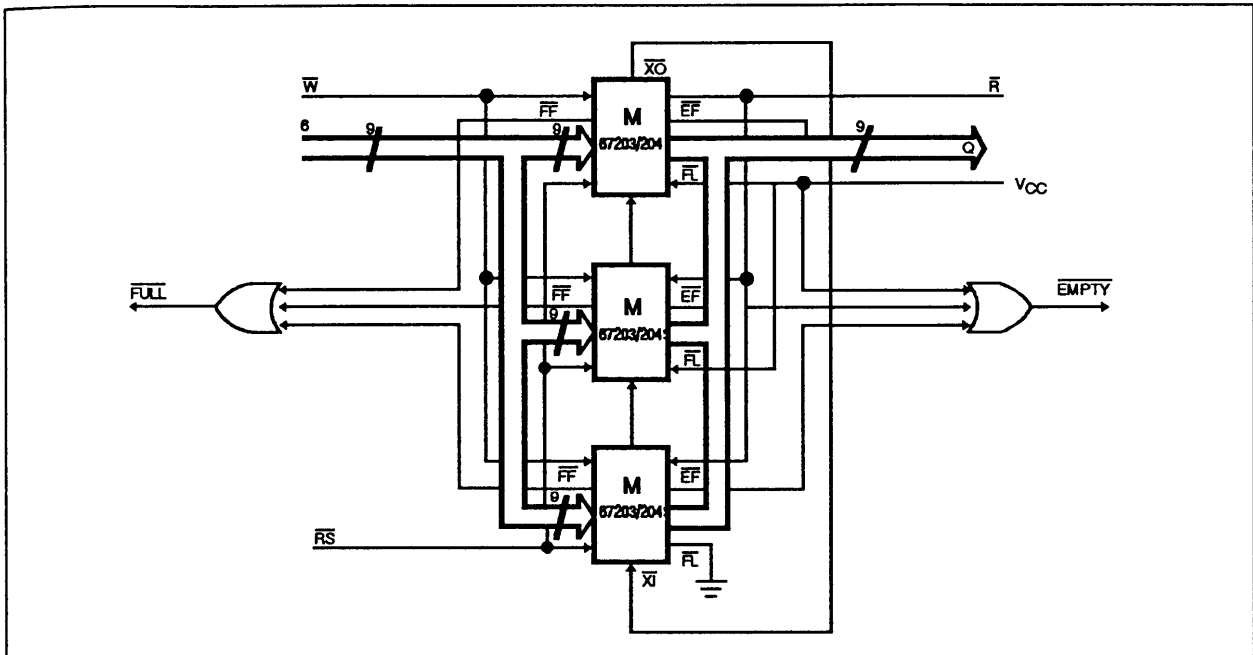

Figure 4 : Block Diagram of 6144 x 9 / 12288 x 9 FIFO Memory (Depth expansion).
The M 67203/204 can be easily adapted for applications which require more than 2048/4096 words. Figure 4 demonstrates Depth Expansion using three M 67203/204s. Any depth can be achieved by adding additional 67203/204.
3. The Expansion Out (\overline{XO}) pin of each device must be connected to the Expansion In (\overline{XI}) pin of the next device. See figure 4.
4. External logic is needed to generate a composite Full Flag (\overline{FF}) and Empty Flag (\overline{EF}). This requires that all \overline{EF} 's and all \overline{FF} 's be \emptyset Red (i.e. all must be set to generate the correct composite \overline{FF} or \overline{EF}). See figure 4.
Notes : 6. For depth expansion block see section on a Depth Expansion and Figure 4.